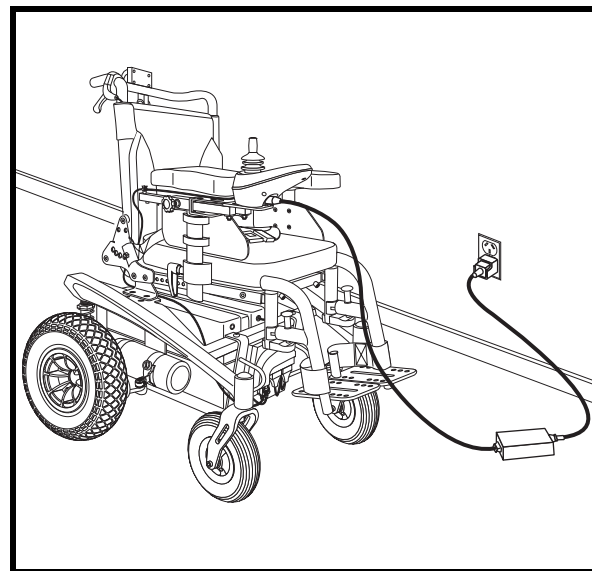

Figure 28. Battery Charging
3. Plug the off-board charger into the off-board charger/programming socket on the controller. See **figure 28**.